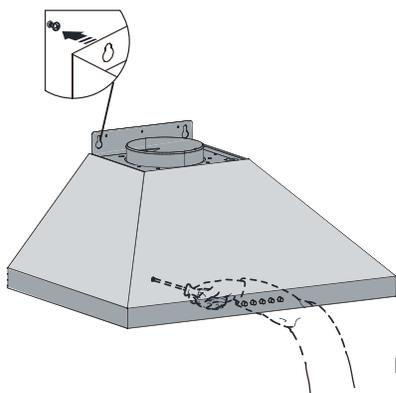

Fig.8
5. Hang the body hood on the mounting screws then secure at the anti-tilt locations(2 places) as indicated in Fig 8.